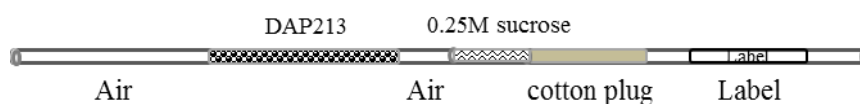

Figure 7.
4. After 1 minute, when the embryos have partially equilibrated in the DAP213 drop, start to load the embryos into the pre-cooled straws (Figure 7):